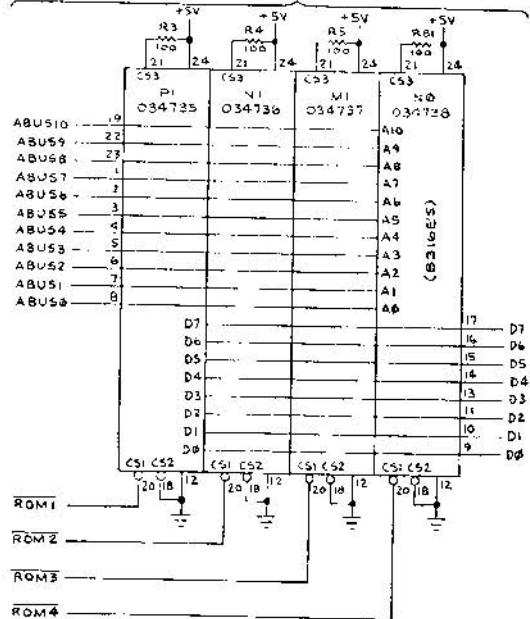

Figure 4-7 Program Memory
2. ROM memory at locations M1, N0, N1 and P1 for the -02 version, or PROM memory at B0, C0, D0, D1, E0, E1, F0, F1, H0, H1, J0, J1, K0, K1 and M0 for the -01 version (see Figure 4-7).